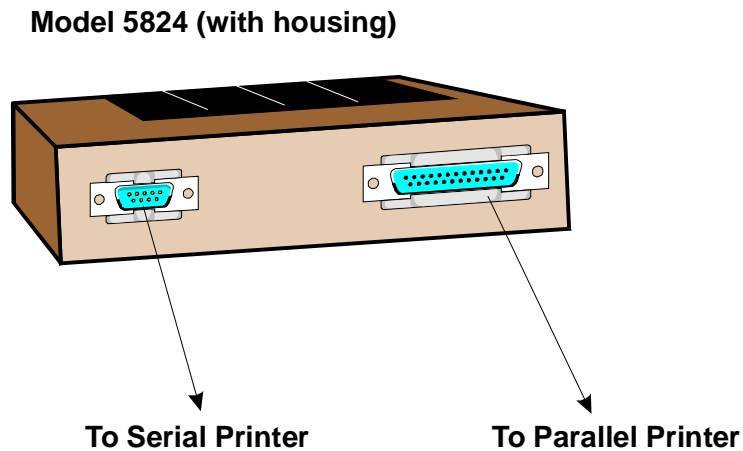

Figure 4-18 Printer Connection
5. Connect a printer to the 5824 as shown in Figure 4-18.